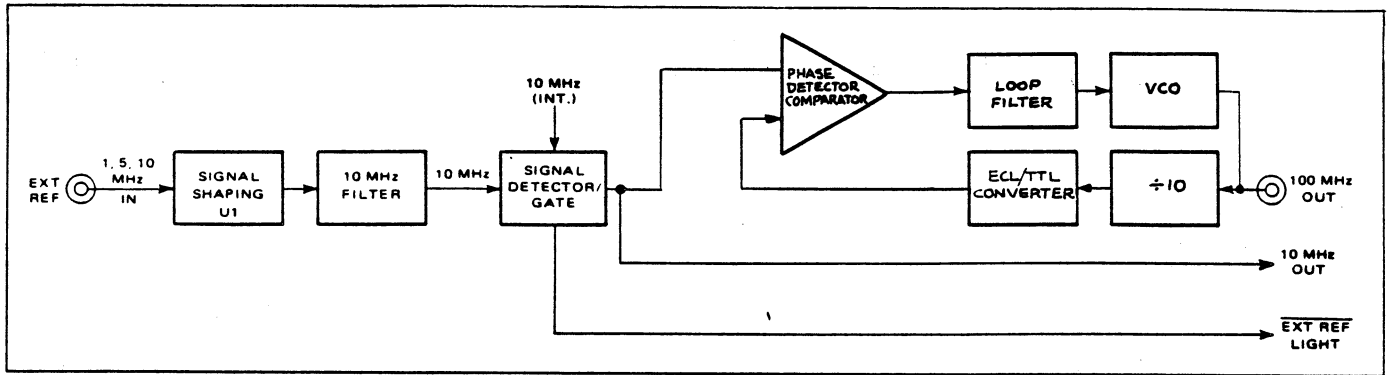

Figure 4.15 - Reference Multiplier Circuit
4.4.5.2 The circuitry, shown in block form in Figure 4.15, consists of signal shaping circuit, 10 MHz filter, signal detector, phase detector comparator, loop filter, voltage-controlled oscillator, divide by 10 prescaler and ECL to TTL Converter.